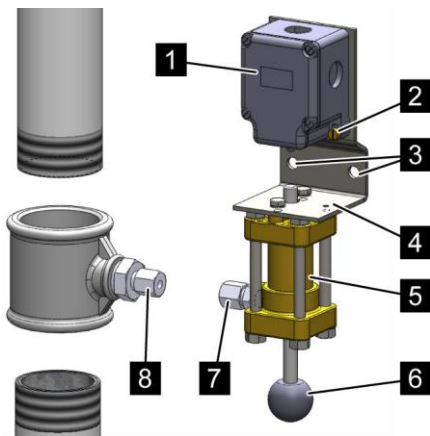

Fig. 117: Mounting
1. ➔ Screw the cylinder (Fig. 117/5) onto the holder (Fig. 117/4) with the two provided screws.
2. ➔ Screw the limit switches (Fig. 117/1) on the holder with the two provided M5 x 25 cylinder screws, washers and hex nuts (Fig. 117/2).
3. ➔ Fasten the holder to the bearing structural elements with the provided screws via the two fastening bores (Fig. 117/3).
4. ➔ Connect the compressed air line from the pipeline (Fig. 117/8) on the compressed air connection (Fig. 117/7) and fasten with threaded union.
6. ➔ Press the pushbutton (Fig. 117/6) on the limit switch and check the functionality on the fire extinguishing detection system.